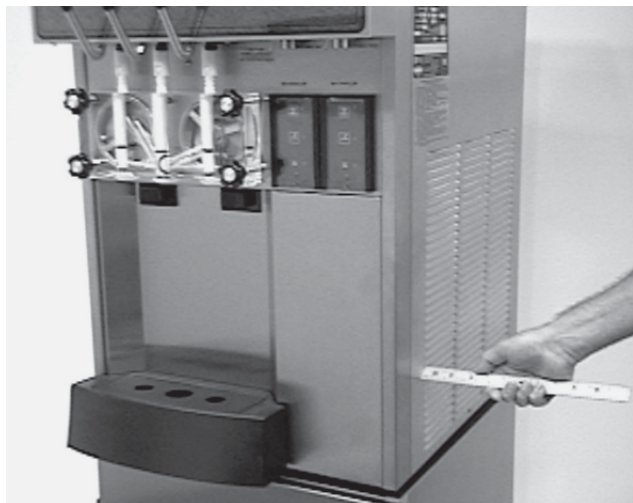

Fig. 4. Space and Ventilation Requirements
B. Accurate leveling is necessary for correct drainage of freezer barrel and to insure correct overrun. Place a spirit level on top of the freezer at each corner to check for level condition. If adjustment is necessary, level the freezer by turning the bottom part of each leg in or out. Then separate freezer base gasket and install with the seam to the back and the flat to the bottom. (Fig.4).
C. Air cooled freezers require correct ventilation. The right side of the freezer is the air intake and **must** have a 3" (7.5cm) clearance. Air discharges out of the left side of the unit and must have 3" (7.5cm) clearance. **Do not** obstruct the intake or discharge (Fig.4).